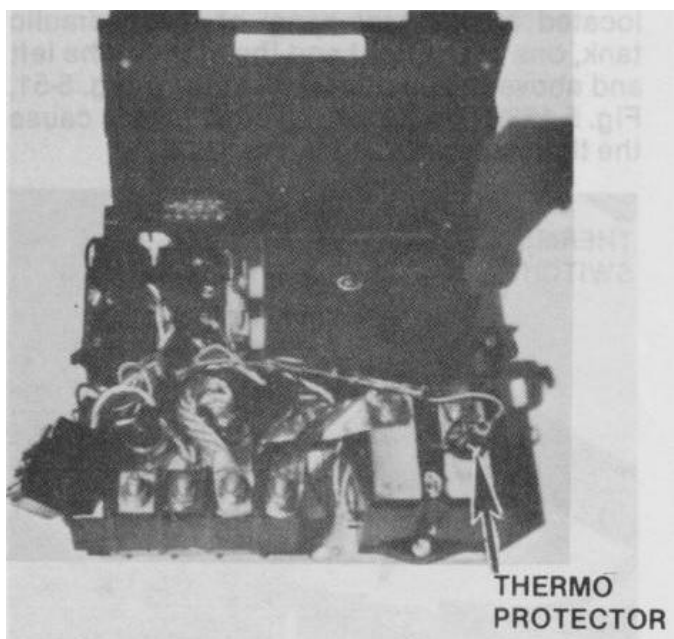

Figure 3-10
3.29 Operation of the truck in the SCR speed control range, on very hot days, can cause a slow down of truck speed and eventually lockout the "1A" contactor. Truck speed reduction by the SCR controller is regulated by a THERMAL PROTECTOR (TP). The temperature sensitive device is mounted on the 1 REC heat sink. If the 1 REC temperature exceeds design limits (240°F), the thermal protector lowers the maximum current limit and not allow the 1 REC to exceed its temperature limits. Even at reduced current limit, the vehicle will normally be able to reach sufficient speed for full 1A operation, thereby allowing the panel to cool. As the panel cools, the thermal protector will automatically return the control to full power(Fig. 3-10).